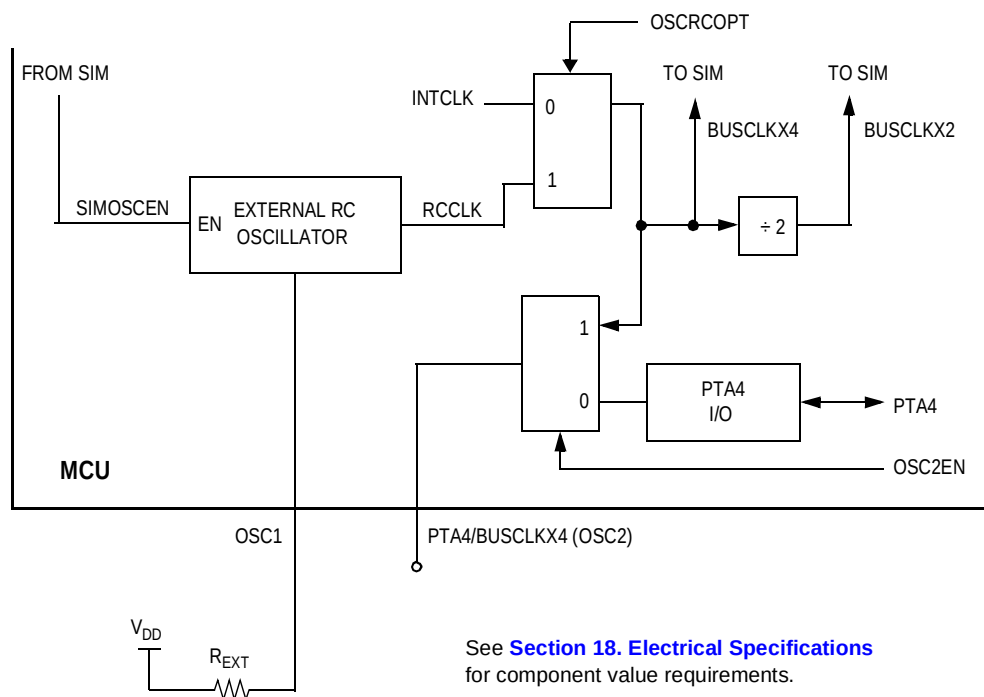

**Figure 8-2. RC Oscillator External Connections**
**Figure 8-2** shows how BUSCLKX4 is derived from INTCLK and, like the RC oscillator, OSC2 can output BUSCLKX4 by setting OSC2EN in PTAPUE register. See Section 12. Input/Output \(I/O\) Ports.
RCCLK is the RC oscillator output signal. Its frequency is directly proportional to the time constant of external R and internal C. Figure 8-2 shows only the logical relation of RCCLK to OSC1 and may not represent the actual circuitry.